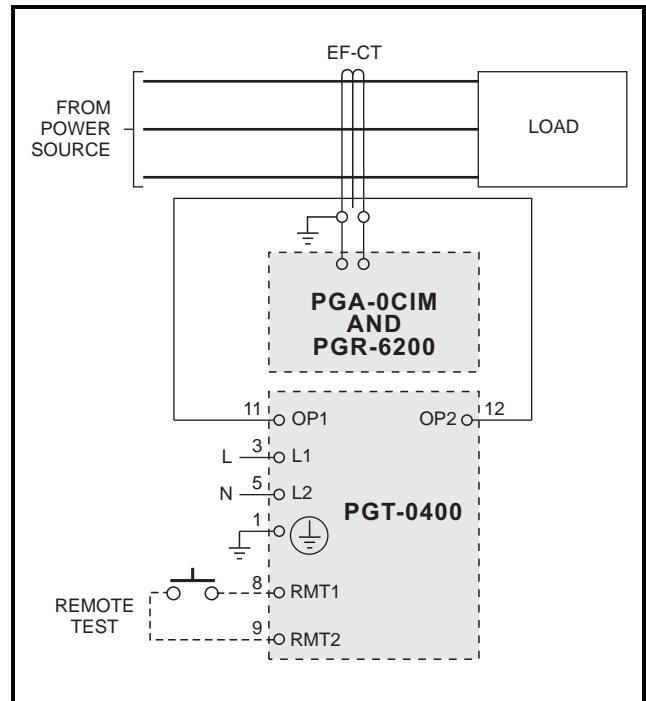

FIGURE G.1 Ground-Fault-Test Circuit.
- d) Verify proper reaction of the circuit-interrupting device in response to a simulated or controlled ground-fault current. To simulate ground-fault current, use CT-primary current injection. Fig. G.1 shows a test circuit using a POWR-GARD PGT-0400 Ground-Fault Relay Test Unit. The PGT-0400 has a programmable output of 0.5 to 9.9 A for a duration of 0.1 to 9.9 seconds. Set the test current to 15% greater than the PGR-6200 trip setting. Inject the test current through the current-transformer window for at least 2.5 seconds. Verify that the circuit under test has reacted properly. Correct any problems and re-test until the proper reaction is verified.